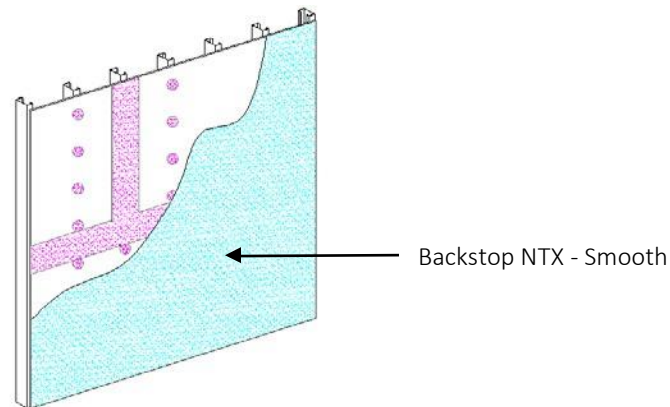

Figure 18
- a. General: Dryvit Backstop NTX – Smooth can be applied using a roller or sprayed and back-rolled over the acceptable sheathing substrates. **NOTE: OSB sheathing requires that joint and fasteners be treated with Backstop NTX – Texture. A minimum of two (2) coats of Backstop NTX – Smooth are required for the field of the wall. Backstop NTX – Texture is not recommended for application in the field of the board.**
- 2) Backstop NTX – Smooth material should be applied in a uniform, continuous film at the recommended coverage rate – Figure 18. **NOTE: Sheathing substrates with a surface texture or high porosity will require additional material.**